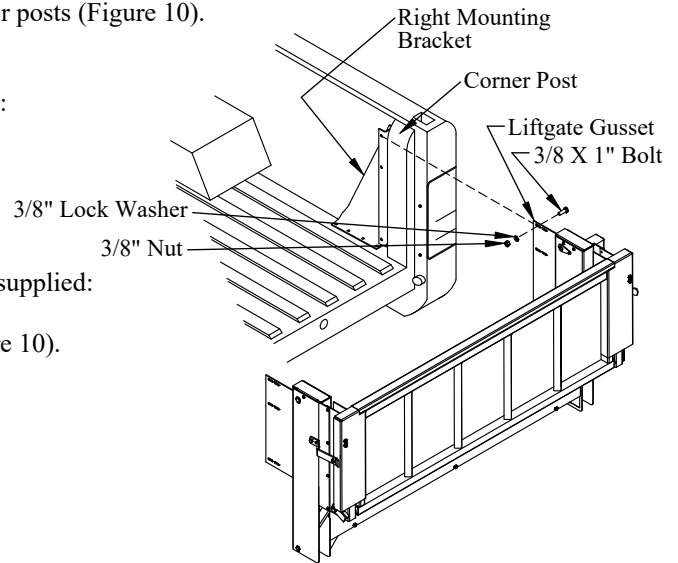

Figure 10: Mounting bracket and liftgate.
- 1. Position** the mounting brackets into the truck bed in front of the corner posts (Figure 10).
- (3) 3/8"x1" hex head bolts on the bracket-side (Figure 10).
- (3) 3/8" lock washers, and (3) 3/8" nuts on the gusset-side (Figure 10).
- 7. Drill** two (2) 3/8" holes into the truck bed floor using two holes in the bracket as a guide.